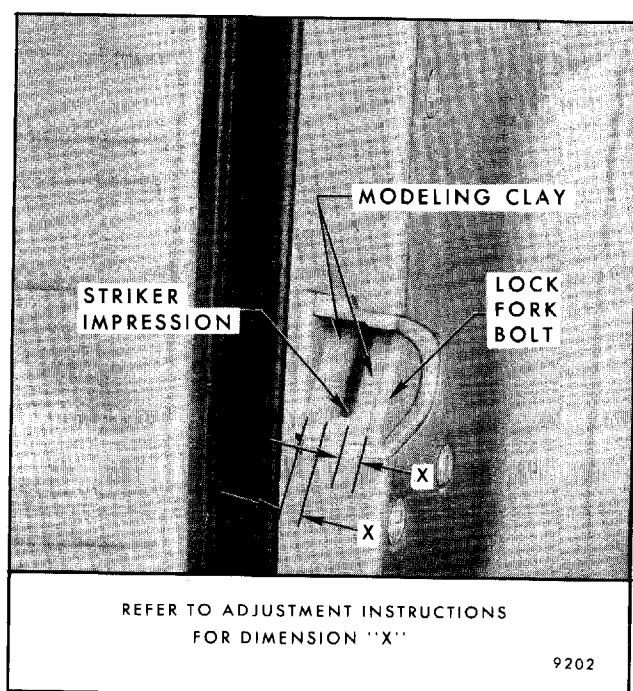

Fig. 5-51-Lock-to-Striker Fore and Aft Adjustment
- Apply modeling clay or body caulking compound to lock bolt opening as shown in Figure 5-51.
- Close door only as far as necessary for striker bolt to form an impression in clay or caulking compound as shown in Figure 5-51.
- Striker impression should be centered fore and aft as shown in Figure 5-51. Allowable minimum measurement for dimension X is as follows: